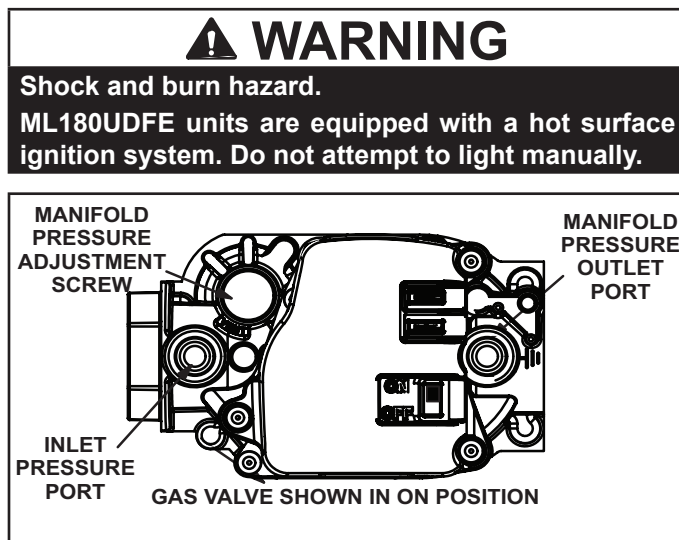

FIGURE 18
- 6 - Move gas valve switch to OFF position. Do not force. See figure 18.
- 8 - Move gas valve switch to ON position. Do not force. See figure 18.
- 4 - Move gas valve switch to OFF position. Do not force. See figure 18.